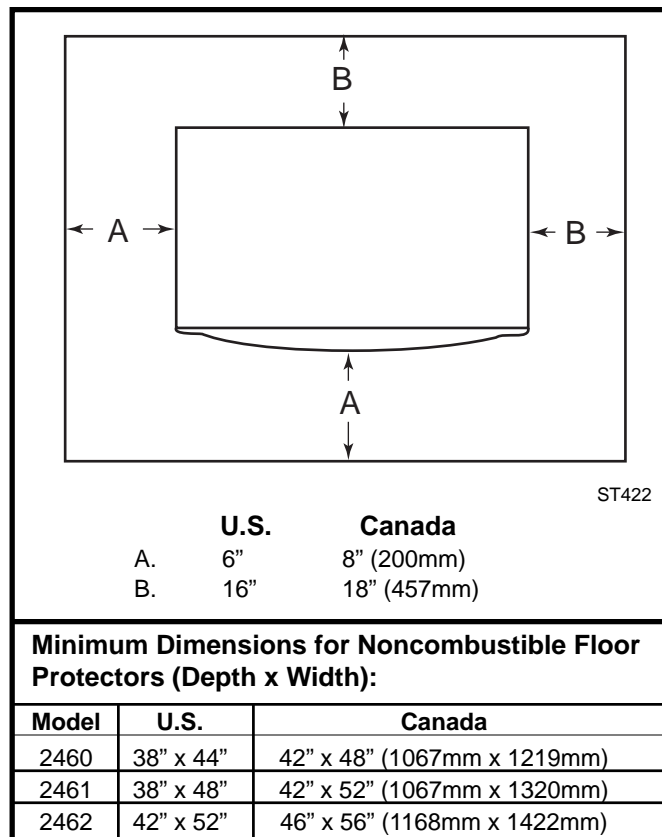

Fig. 12 Be sure to follow exactly the floor protection requirements on all four sides of the stove.
U.S. Installations: The floor protector is required under the stove and must extend at least 16 inches from the front and left (loading door) side of the stove, and at least 6 inches from the right side and rear. (Fig. 12) Refer to Figure 12 for minimum noncombustible floor protection dimensions for each stove model.
In Canada: a noncombustible floor protector is required under the heater also. The floor protector must extend 18 inches (457mm) from the front and left (loading door) side of the stove, and at least 8 inches (203mm) from the right side and rear. (Fig. 12)